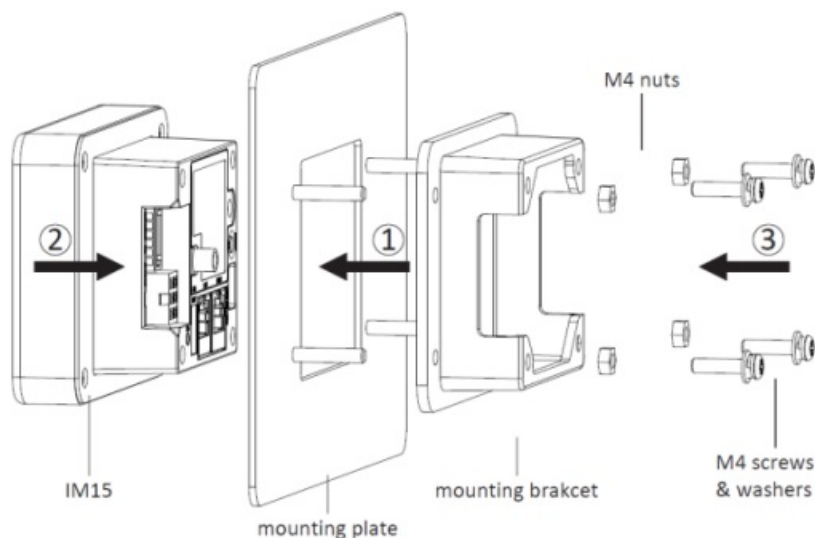

Figure 7: device installation
- mounting bracket. Slide the mounting bracket into place with the orientation shown in figure 7 and then fix it in place with four M4 nuts.
- Slide the IM25 unit into place with the orientation shown in figure 7. The back portion of the device should rest securely inside the mounting bracket.